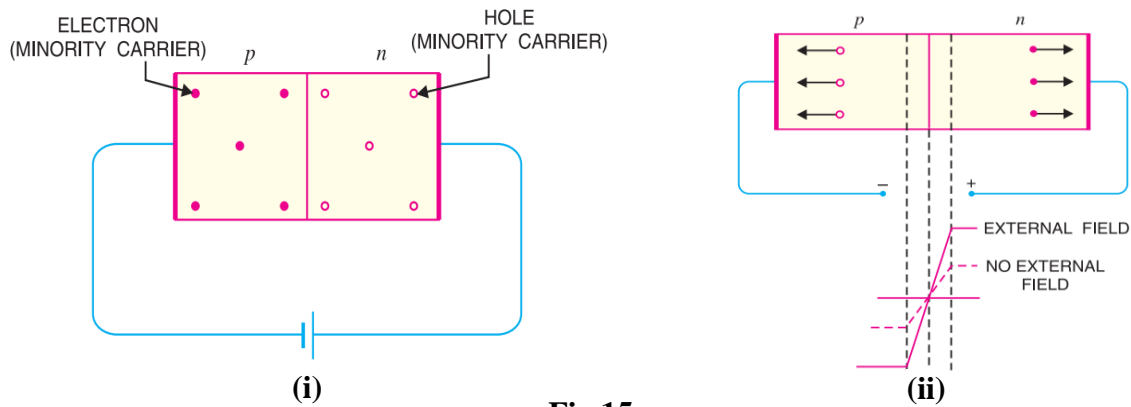
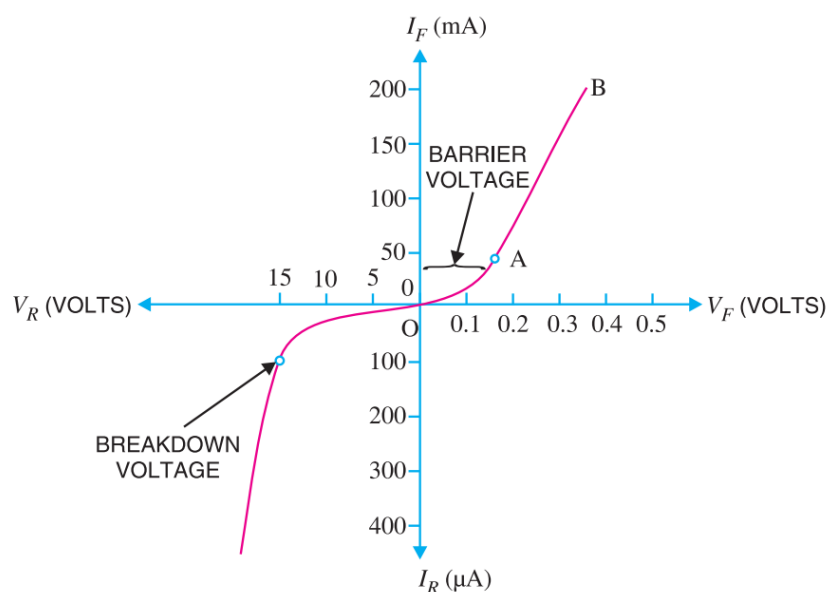

Fig.15
Fig.16
To apply reverse bias, connect negative terminal of the battery to p -type and positive terminal to n -type as shown in Fig.15(i). The applied **reverse voltage (V_R)** establishes an electric field which acts in the same direction as the field due to potential barrier. Therefore, the resultant field at the junction is strengthened and the barrier height is increased as shown in Fig.15 (ii).
i) Zero external voltage (no bias): When the external voltage is zero, the potential barrier at the junction does not permit current flow. Therefore, the circuit current is zero as indicated by point O in Fig. 16.
From the forward characteristic, it is seen that at first (region OA), the current increases very slowly and the curve is non-linear. It is because the external applied voltage is used up in overcoming the potential barrier. However, Once the applied forward voltage exceeds the knee voltage, the current starts increasing rapidly in linear manner. Thus, a rising curve AB is obtained with forward bias as shown in Fig. 16. and the pn junction behaves like an ordinary conductor.
With reverse bias to the pn junction potential barrier at the junction is increased. Therefore, the junction resistance becomes very high and practically no current flows through the circuit. However, in practice, a very small current (of the order of μA) flows in the circuit with reverse bias as shown in the reverse characteristic in Fig. 16. This is called **reverse saturation current (I_s)** and is due to the minority carriers (few free electrons in p-type material and a few holes in n-type material) produced due to breaking of some co-valent bonds at room temperature as shown in Fig. 15(i).